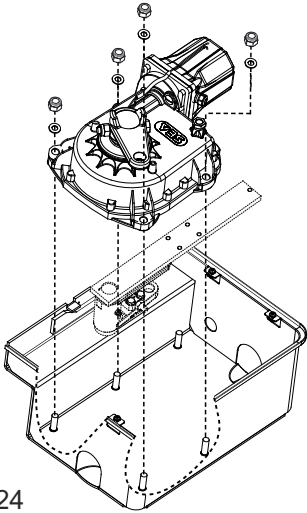

Fig. 24
5.1. Position the operator in correspondence with the screws already prepared inside the foundation box; screw the operator using the washers and nuts supplied (Fig. 21 or Fig. 24)